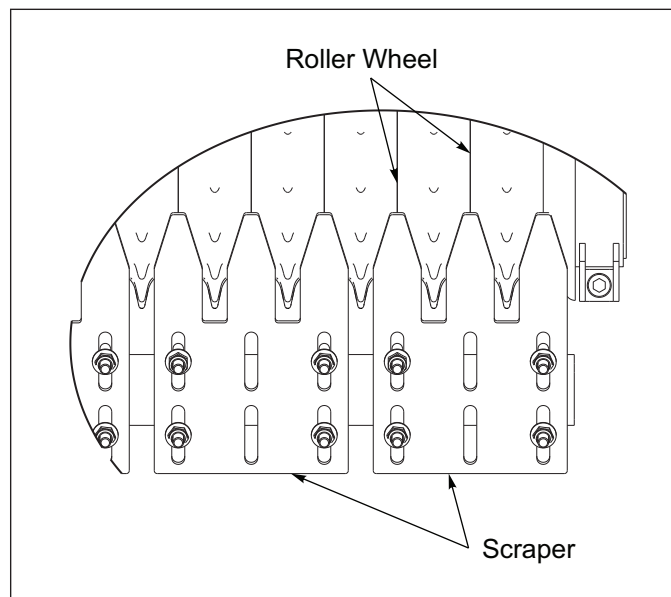

Figure 5-10: Scraper Alignment
3. Verify that the Scrapers are centered as best as possible between the Roller Wheels and adjust if necessary. **See Figure 5-10.**